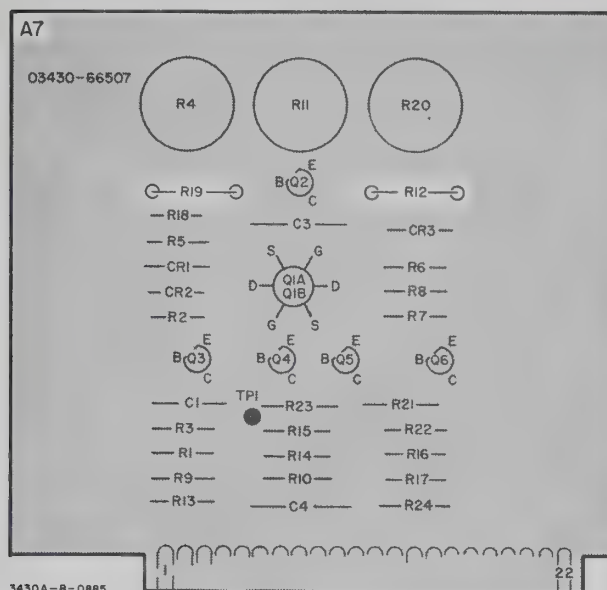

Figure 2.
5. Locate A1R3* and A1R50* on the A1 Board (see Figure 1) or A7R12, * and A7R19* on the A7 Board (see Figure 2). If the value of either resistor differs from the value determined in Table 1 for the corresponding resistor, remove the existing resistor from the board.